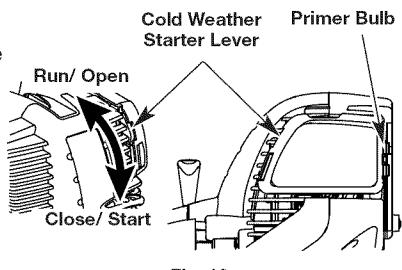

Fig. 10
- IF COLD...** For cold weather conditions (below 40°F), flip the Cold Weather Start Lever (Fig. 10) down to the start/closed position and continue to step 3. DO NOT flip this lever down if the temperature is above 40°F.
3. Fully press and release the primer bulb 10 times, slowly. Some amount of fuel should be visible in the primer bulb (Fig. 10). If fuel can not be seen in the bulb, press and release the bulb until fuel is visible.